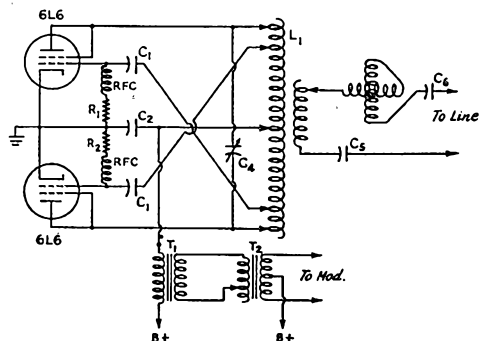

Fig. 1 — Carrier current transmitter with variometer for tuning load.
The circuit we use is shown in Fig. 1. In tuning the rig, the transmitter is set to frequency, then the variometer is adjusted to the point of maximum plate current. If the current is too high the number of turns on the coupling coil is reduced; if too low, the number of turns is increased.
In Fig. 1-A, a probe which can be used as an ohmmeter is shown. It requires two penlight cells and a pilot lamp such as the Sylvania S48, rated at 0.06 amperes at 2 volts. The lamp will light dimly at about 0.7 volts and about 0.03 amperes. Thus with a 3-volt supply this probe can be used to test circuits with resistances up to about 75 ohms. This range includes many of the coils, transformers and other circuit components commonly encountered. In testing low-resistance leads the current rating of the lamp will be exceeded, although it should "take it" if flashed only momentarily.
The probe of Fig. 1-B may be described as a substitute voltmeter for a.c. or d.c. It uses a neon bulb such as the G.E. type G10, with no resistor in its base. The bulb is connected in series with a 50,000-ohm 1-watt resistor. The starting voltage is about 65 volts, d.c., and 50 volts, a.c. The resistor limits the current to a safe value up to about 400 volts. If too high a voltage is used an arc will start between the elements of the tube. The relatively high impedance of this probe permits its use as a substitute for a voltmeter for testing circuits. It readily determines type and polarity of voltage. On a.c. both elements of the tube will glow. On d.c. that element which is connected to the positive side of the circuit glows. As the brilliancy of the glow increases with the voltage, a rough estimate of the voltage is possible.
The probe shown in Fig. 1-C is convenient for testing "A" batteries under load, which is supplied by the coil of resistance wire shown in the diagram. For testing flashlight cells the load may be about 3 ohms and the bulb rated at 1.5 or 2 volts.
A probe used for testing "B" batteries is shown in Fig. 1-D. A 6-watt, 110-volt bulb is used, connected in series with an 800-ohm  $\frac{1}{2}$ -watt resistor. Because of the non-linear current characteristics of metallic-filament lamps, it is difficult to estimate changes in voltage by the brightness of the filament: The 800-ohm resistor in series with the filament tends to increase the linearity of the circuit, thereby making it easier to spot a low-voltage battery by a change in the brightness of the filament. A test load is supplied by a 2000-ohm 1-watt resistor shunted directly across the battery. A 45-volt battery in good condition causes the filament to glow red. A good 22 $\frac{1}{2}$ -volt battery will cause the filament to glow at the thresh-
The general construction of these probes is shown in the drawings of Fig. 1. In the cases of A, C and D,  $\frac{5}{8}$ -inch diameter bakelite tubing is used as the housing, and in the case of B,  $\frac{1}{2}$ -inch diameter. The point of the probe is a  $\frac{1}{8}$ -inch rod threaded into a plug which is fastened into the end of the tubing with screws. A convenient method of mounting the bulbs is to solder a nut or binding post to the base to receive a screw passed through the wall of the tubing. The same screw may be used for connection to one of the test leads. As the larger bulbs are easily broken, it is well to wrap them with a turn or two of rubber tape as shown in the drawings. — Robert C. Paine, 436 Cornelia Street, Boonton, N. J.
Fig. 1—(A) Probe substitute for low resistance ohmmeter. (B) Probe substitute for a.c. and d.c. voltmeter. (C) Probe tester for low-voltage cells. (D) Probe tester for high-voltage batteries.